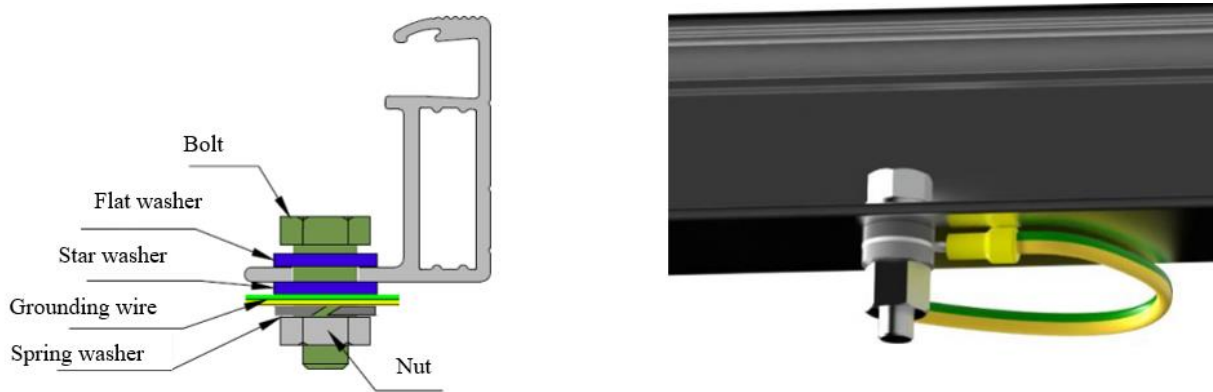

Fig. 18 Grounding with bolts
8.5.5 There is a 4mm diameter grounding hole on the long frame near the edge on the back of the Module, which is marked with the typical grounding symbol (\perp) according to IEC 61730-1:2023. This hole is only used for grounding, not for installation. Bolts, flat washers, star washers, spring washers and nuts will be used for grounding, see Fig. 18. Please fasten the bolts for grounding, and do not drill holes in the frame, otherwise the warranty will be voided. Unused mounting holes in the frame may also be used for grounding.